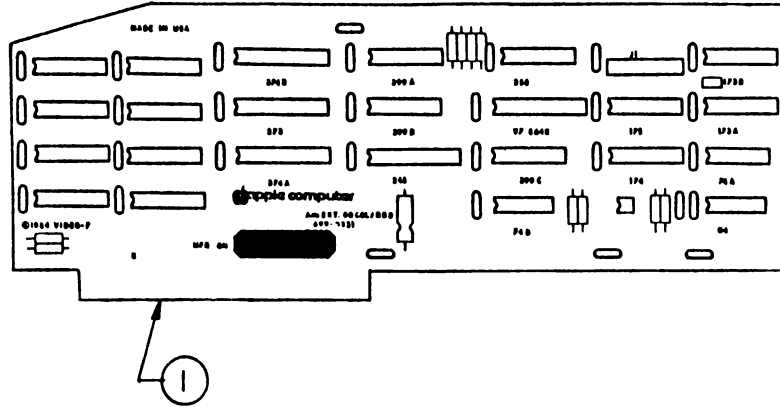

FIGURE 3
- IPL.5 Extended 80-Column AppleColor Card (Figure 3)
EXTENDED 80-COLUMN APPLECOLOR CARD (Figure 3)